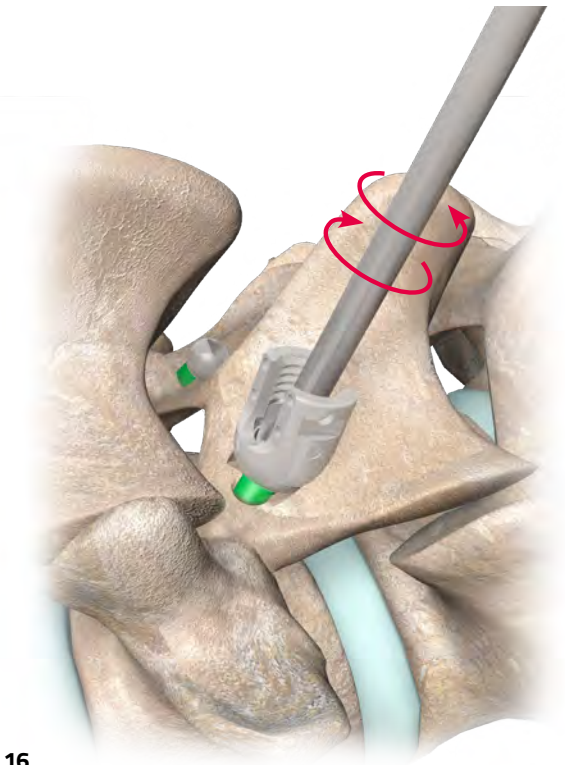

Fig. 16
Multi-Axial Adjustment Driver (52-1339) Use the multi-axial adjustment driver to adjust the sagittal height of the screws prior to rod insertion. **(Fig. 16)**
**NOTE:** This instrument can assist in restoring mobility of the multi-axial bodies if screw has been driven too deep. **(Fig. 16)**